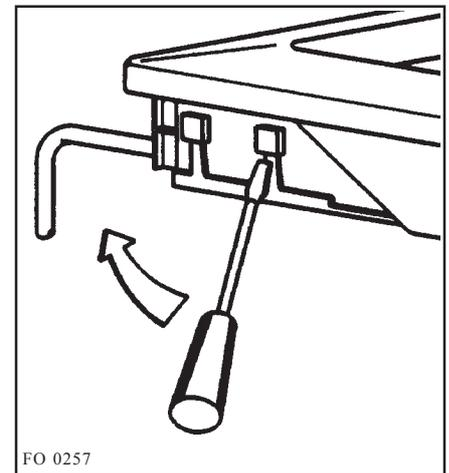

Fig. 2
2. exert a light pressure and lift (Fig. 2)